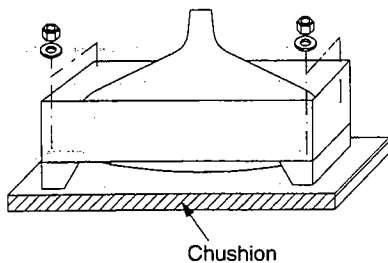

Fig. 6-1
8. Place a thick cushion or slab of foam rubber on the BASE and carefully lie the TV set on its face, taking care not to strike or scratch the face of the CRT. (Fig.6-1)
9. Remove 4 CRT mounting Hex nuts and washers. (Fig. 6-1)